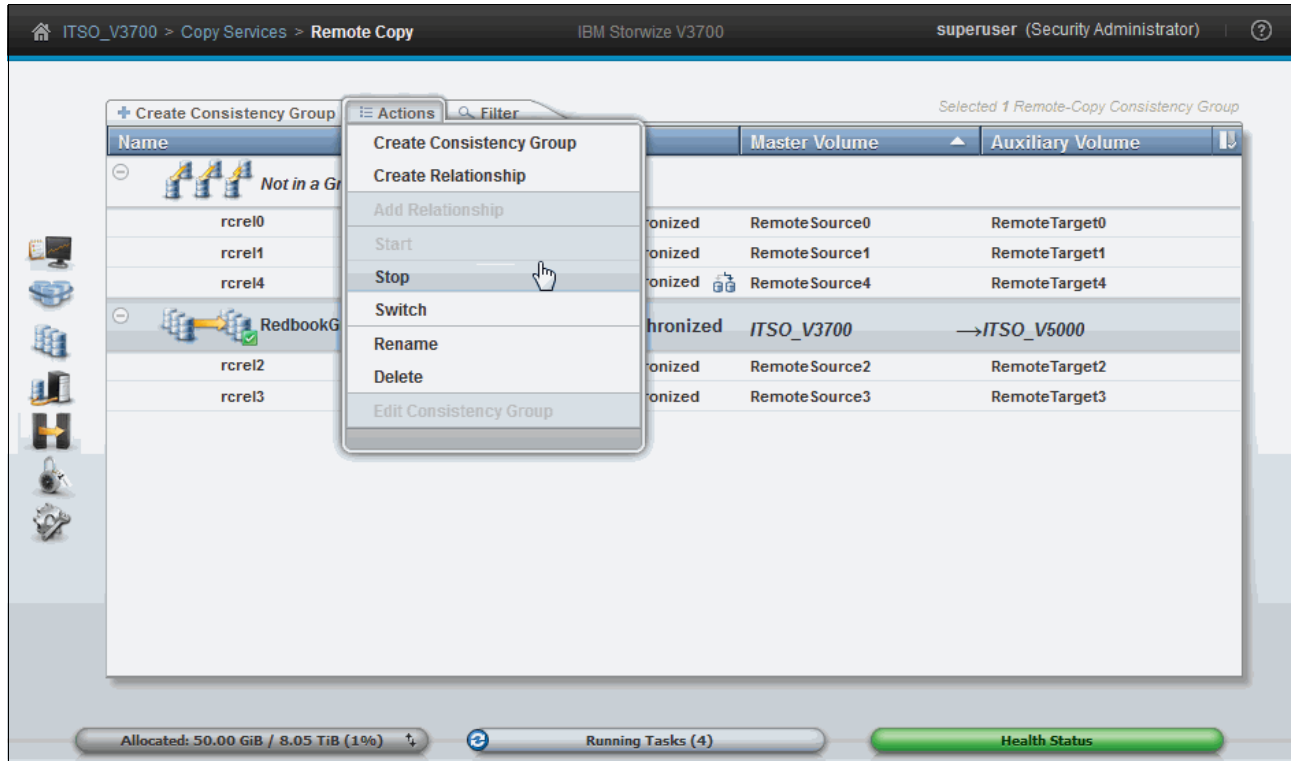

Figure 10-135 Stopping a consistency group
1. Highlight the consistency group and click **Stop** from the **Actions** menu, as shown in Figure 10-135, or right-click the consistency group.